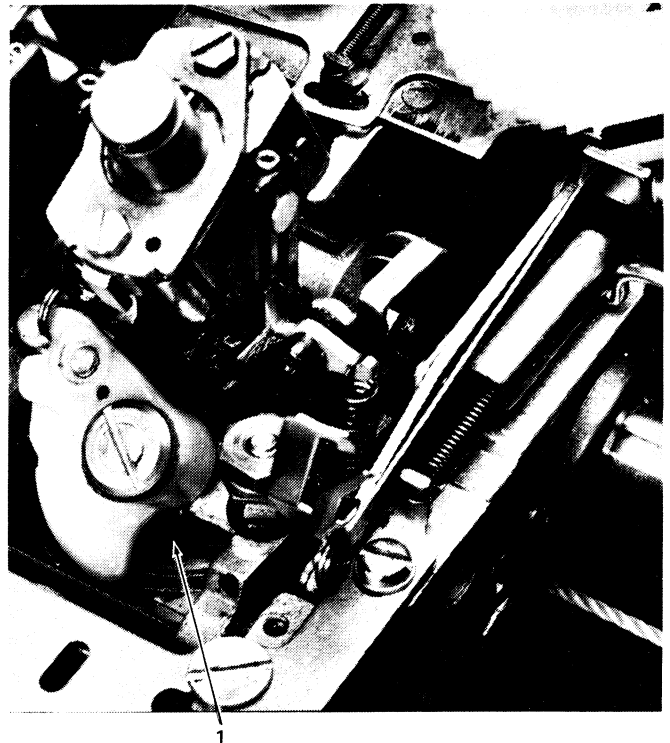

Figure 4-15. Rotate Tape Replacement (Rear of Carrier)
6. Rotate the typehead three full turns counterclockwise, allowing the detent to reengage the typehead before you remove your hand to take a new grip on the head. Continue into the fourth turn, until the T-slot in the rotate pulley is accessible at the rear of the carrier (No. 1, Figure 4-15), then fully seat the detent.
8. Insert the T-end in the rotate pulley slot (No. 1, Figure 4-15).